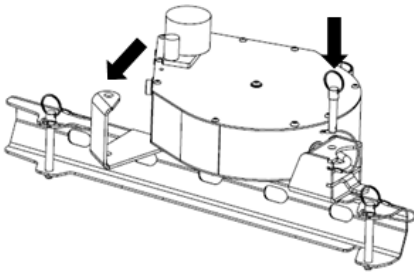

Fig. 8
3. Insert the fastener through the lockwasher and spacer into the hole in the bracket which aligns with a threaded hole in the MightEvac unit. Tighten to 10 ± 1 Nm. Repeat for opposite side (Fig. 8).